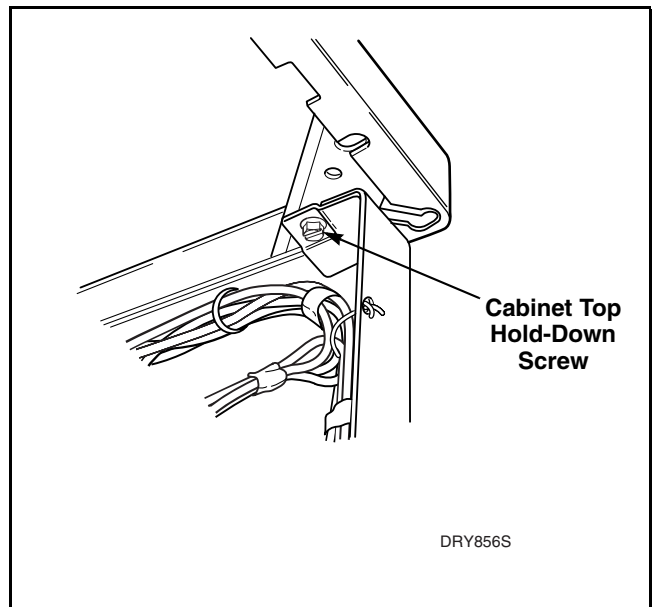

Figure 26
- e. Remove two cabinet top hold-down screws. Refer to *Figure 26*.
- d. Remove two cabinet top hold-down screws. Refer to *Figure 26*.